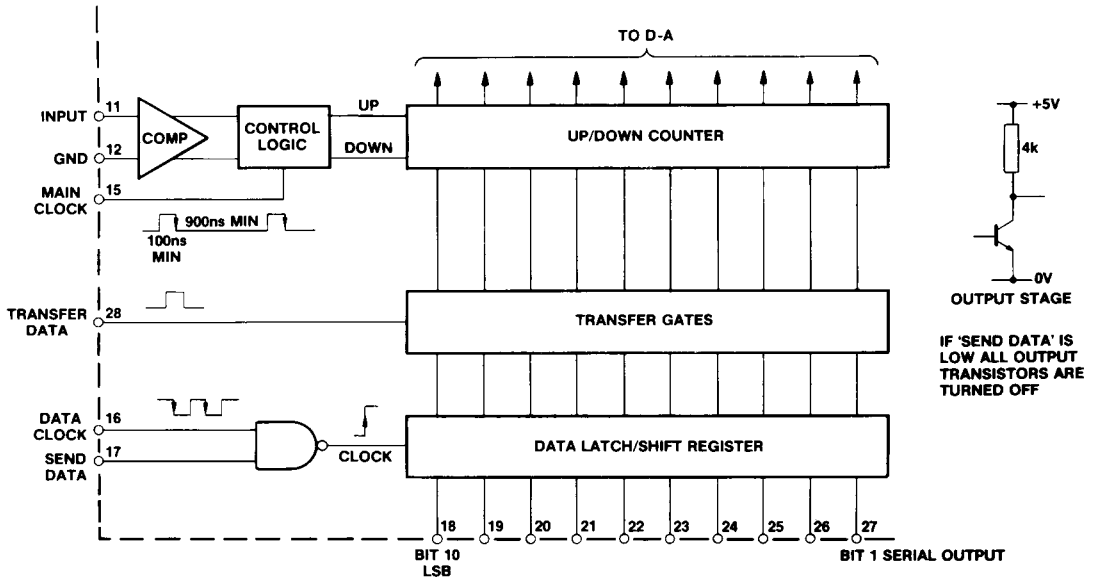

Fig.5 Logic system
3. For main clock waveform see Fig.5. Input signals which do not change by more than 1 LSB/ μs may be tracked continuously without the need for a sample and hold. This corresponds to a full-scale bandwidth of 300Hz. Higher frequencies may be tracked if the amplitude is reduced, e.g. the half full-scale bandwidth is 600Hz.